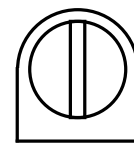

Fig. 6
*The bar of the stopcock coupling must be exactly parallel to the lateral edges of the MPT Titrino, see Fig.6.*